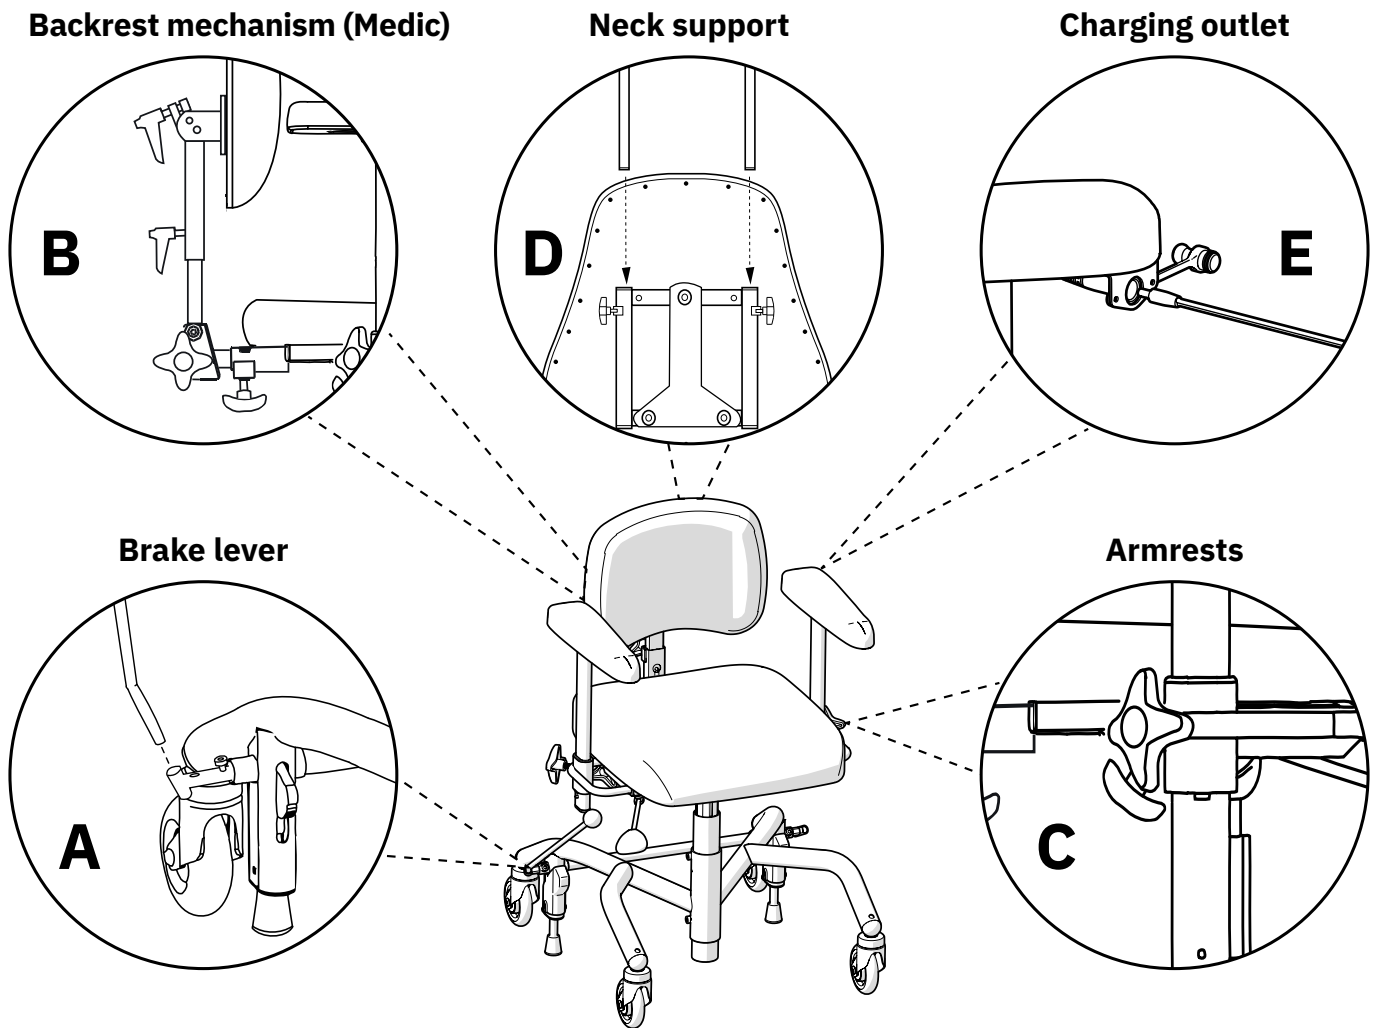

Figure 2.1. Preparations before the device is put into use.
Insert the brake lever into the brake lever bracket (A), see Figure 2.1. The brake lever can be placed on the right or left side.
Place the backrest support post in the back recliner (B) and set the desired height level, see Figure 2.1. Tighten all controls (B). The image shows one of several back mechanisms available for Mercado Medic devices. Other back mechanisms are mounted in the same way, although the appearance may differ from that in the image.
Loosen the armrest controls (C) and set the desired height and width levels, see Figure 2.1. Tighten all controls (C).
If the device is supplied with a neck support, insert the neck support mechanism into the backrest bracket (D) and set the desired height level, see Figure 2.1. Tighten all controls (D).
Before first use, the battery in electric models must be activated and/or charged. This is done by connecting the battery charger to the device's charging outlet and to a wall outlet (E), see Figure 2.1. The charging outlet can be placed in different places on the device. The most common is that the device comes with the charging outlet mounted at the rear edge of the left armrest.